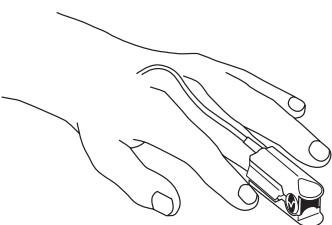

Fig. 3
- Refer to Fig. 3. Orient the sensor so that the cable will be running towards the top of the patient's hand. Connect the sensor connector to a patient cable or directly to the device.